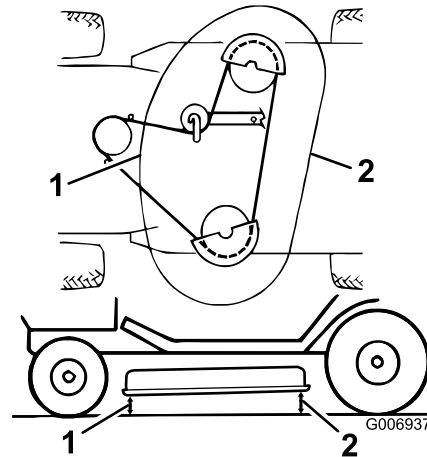

Figure 50
- Check the front-to-rear slope by measuring between the bottom of the mower (front center and rear center) and the flat surface (Figure 50). If the front is not within a range of 1/8 to 3/8 inch (3 to 10 mm) lower than the rear, adjust it.